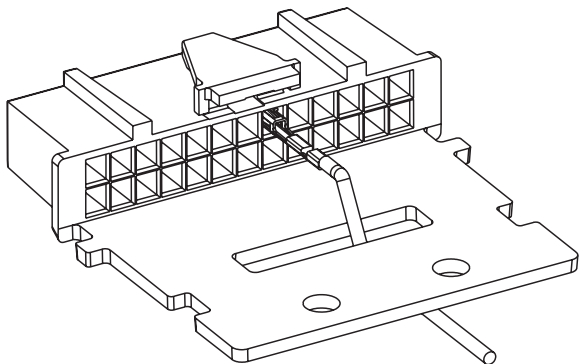

Figure 1a Wire Strain Relief
6. Route wires through connector as shown in *Figure 1a*, or for applications with multiple accessories connected to the mobile radio, route wires as shown in *Figure 1b* and use the cable tie to secure wires to the connector after completing step 7.